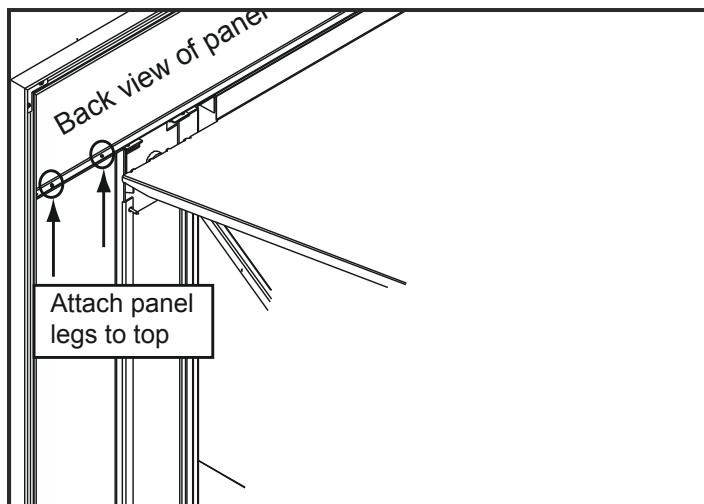

Figure 21.2
1. Attach the panel legs to the top panel using a Phillips head screwdriver. There are 2 screws for each leg. **Figure 21.2.**